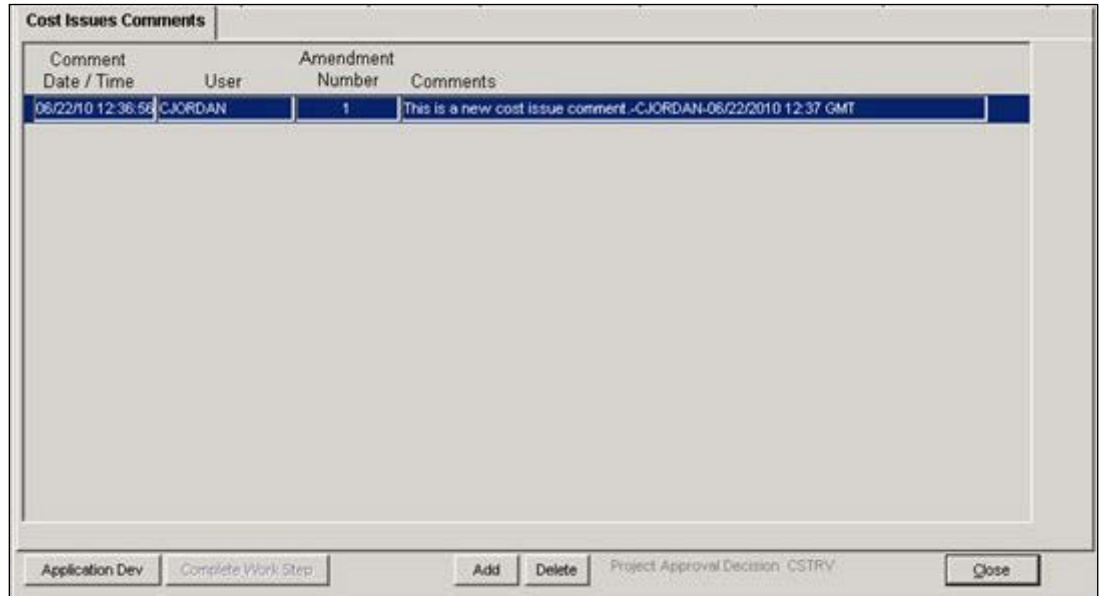

Figure 7-110: Cost Issues Comments Tab with New Comments Added
- e. The **Cost Issues Comments** tab is displayed with the newly-added comments (Figure 7-110).